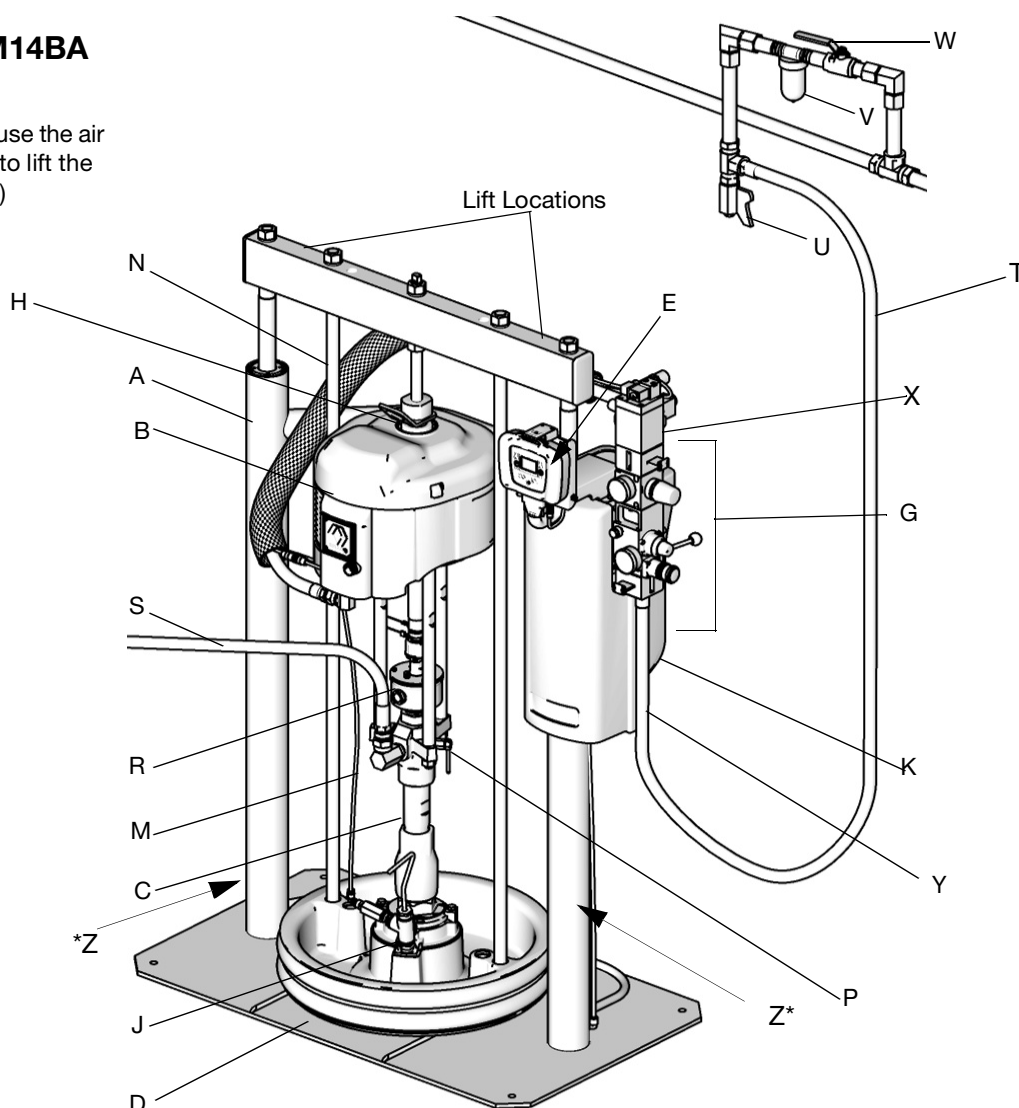
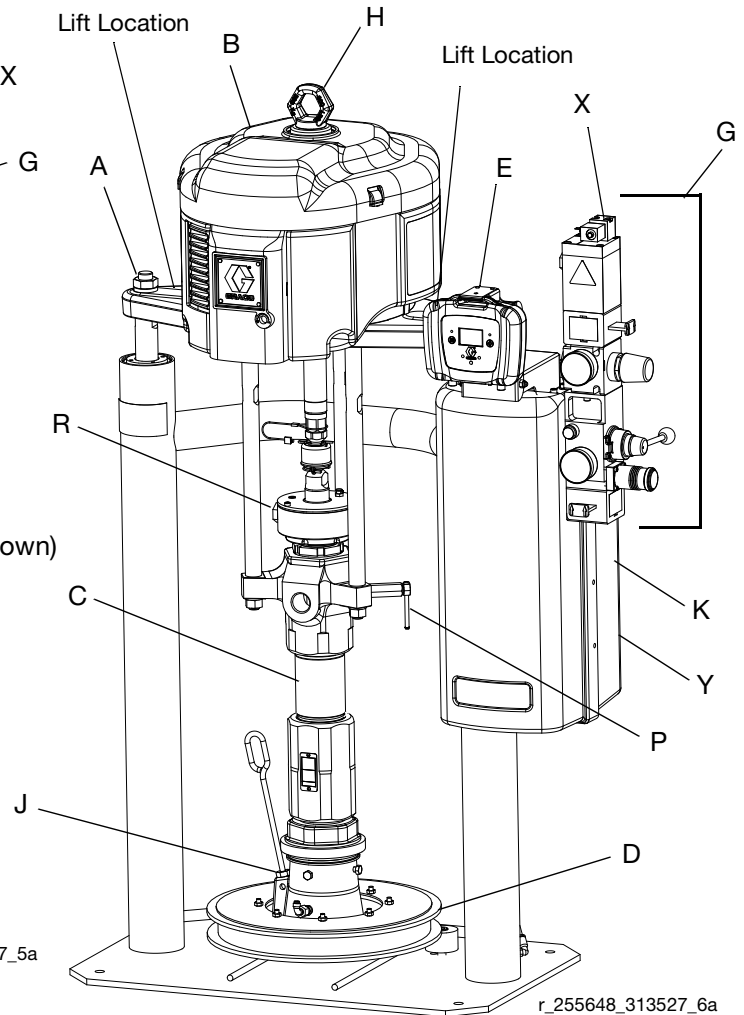

FIG. 2: Typical Installation
FIG. 3: Typical Installation
| A | Ram Assembly | S | Fluid Line (not shown or supplied, see FIG. 2) |
| B | Air Motor | T | Main Air Line (not shown or supplied, see FIG. 2) |
| C | Displacement Pump | U | Air Line Drain Valve (not shown or supplied, see FIG. 2) |
| D | Platen | V | Air Filter (not shown or supplied, see FIG. 2) |
| E | Remote DataTrak (single ram systems) or Display Module (tandem systems) | W | Bleed Type Air Shutoff Valve (not shown or supplied, see FIG. 2) |
- **Main air slider valve (BA):** turns air on and off to the supply system. When closed, the valve relieves pressure downstream.
- **Ram air regulator and gauge (BB):** controls ram up and down pressure and blowoff pressure.
- **Ram director valve (BC):** raises and lowers the ram.
- **Exhaust port with muffler (BD)**
- **Air motor regulator and gauge (BE):** Controls air pressure to motor.
- **Blowoff button (BG):** turns air on and off to push the platen out of an empty drum.
- **Air motor slider valve (BF):** turns air on and off to the air motor. When in the off position, the valve relieves air trapped between it and the air motor.
Remote DataTrak: The air motor solenoid (X, FIG. 2), the air motor slider valve (BF), and the main air slider valve (BA) must be open for air to flow. (See **Remote DataTrak Setup**, page 30.)
See FIG. 2.
FIG. 2 and FIG. 3 are only guides for selecting and installing system components and accessories. Contact your Graco distributor for assistance in designing a system to suit your particular needs.
Always lift the supply system at the proper lift locations (see FIG. 2 and FIG. 3). Do **not** lift in any other way. Failure to lift at the proper lift locations can result in damage to the supply system.
1. Attach a lifting sling at the proper lift spots (see FIG. 2 and FIG. 3). Lift off of the pallet using a crane or a forklift. See **Weight** on page 42.
1. Fill displacement pump wet cup (R) 1/3 full with Graco Throat Seal Liquid (TSL).
3. Connect air line from an air source to the system air inlet. See FIG. 2 and FIG. 3. Refer to the pump performance curves in the Check-Mate Pump Packages Instructions-Parts manual to determine your air supply flow requirements. Use a supply hose capable of meeting the required flow.